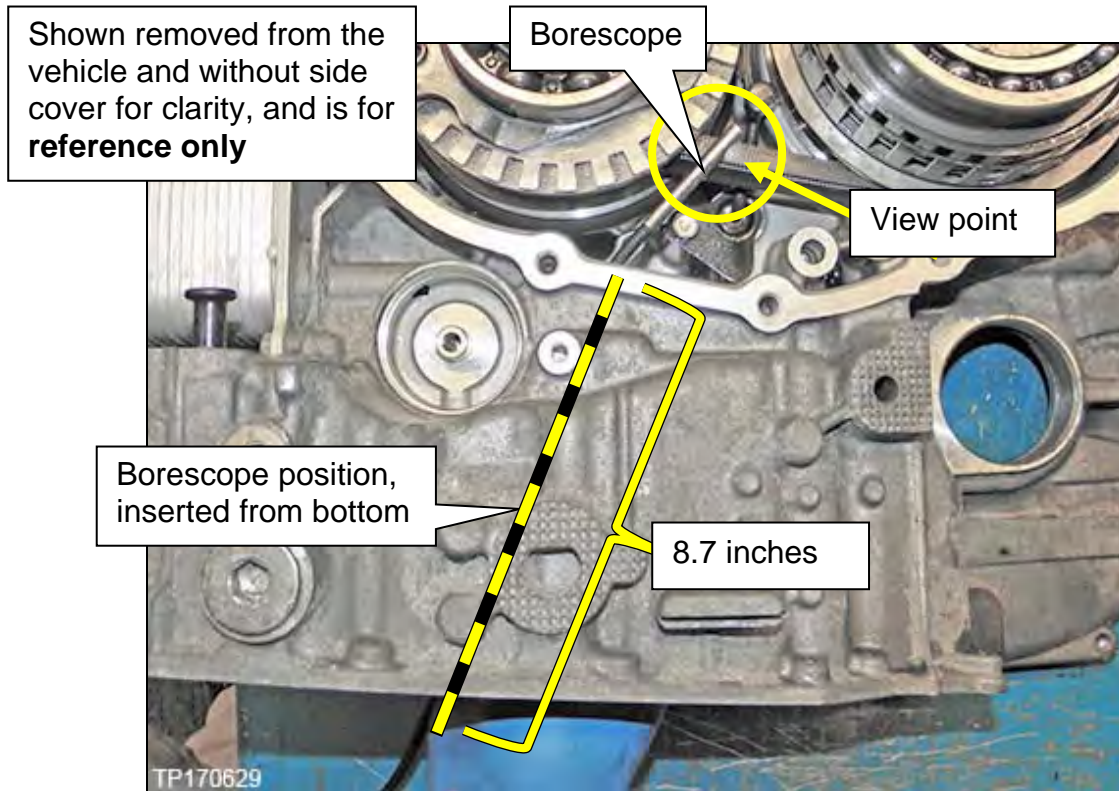

Figure 10C
- IV. Insert the lens approximately 8.7 inches from the CVT case rim as shown in Figure 10C on the next page.